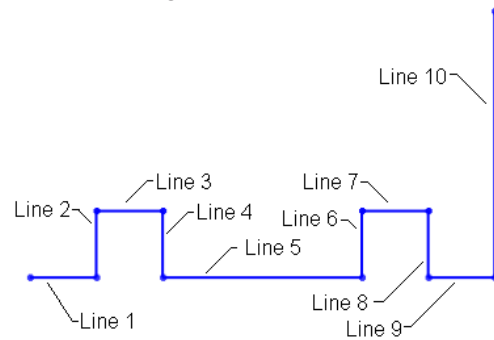

Figure 2-68 Partial outer loop of the sketch
- c. Draw the outer loop of the sketch, refer to Figures 2-68 and 2-69.
4. Click when the length of the line above the line cursor is displayed as 10; a horizontal line is created. Refer to Line 1 in Figure 2-68.
6. Click when the length of the line above the line cursor is displayed as 10; a vertical line is created. Refer to Line 2 in Figure 2-68.
7. Move the line cursor horizontally toward the right. Click when the length of the line above the line cursor is displayed as 10; the next horizontal line of 10 mm length is drawn. Refer to Line 3 in Figure 2-68.
8. Move the line cursor vertically downward and click when the length of the line on the line cursor is displayed as 10. Refer to Line 4 in Figure 2-68.
9. Move the line cursor horizontally toward the right and click when the length of the line on the line cursor is displayed as 30. Refer to Line 5 in Figure 2-68.
10. Move the line cursor vertically upward and click when the length of the line on the line cursor is displayed as 10. Refer to Line 6 in Figure 2-68.
11. Move the line cursor horizontally toward the right and click when the length of the line on the line cursor is displayed as 10. Refer to Line 7 in Figure 2-68.
12. Move the line cursor vertically downward and click when the length of the line on the line cursor is displayed as 10. Refer to Line 8 in Figure 2-68.
13. Move the line cursor horizontally toward the right and click when the length of the line on the line cursor is displayed as 10. Refer to Line 9 in Figure 2-68.
14. Move the line cursor vertically upward and click when the length of the line on the line cursor is displayed as 40. Refer to Line 10 in Figure 2-68.